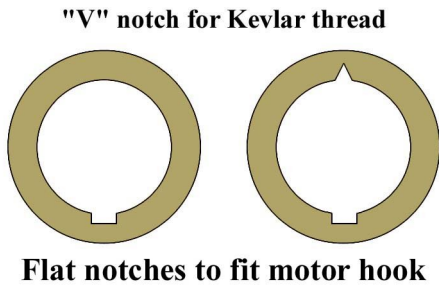

Figure 1
- **Step 1** Using a sharp hobby knife, modify the two CR-710 rings in the EM-710 package as shown in Figure 1. Cut the "V" notch in only one of the rings, and use this ring at the forward end of the mount. Assemble the EM-710 according to the SEMROC instructions, with the flat notches aligned over the motor hook. Make sure the "V" notch remains free of any glue. Clean it out with a damp brush before the glue has time to harden.